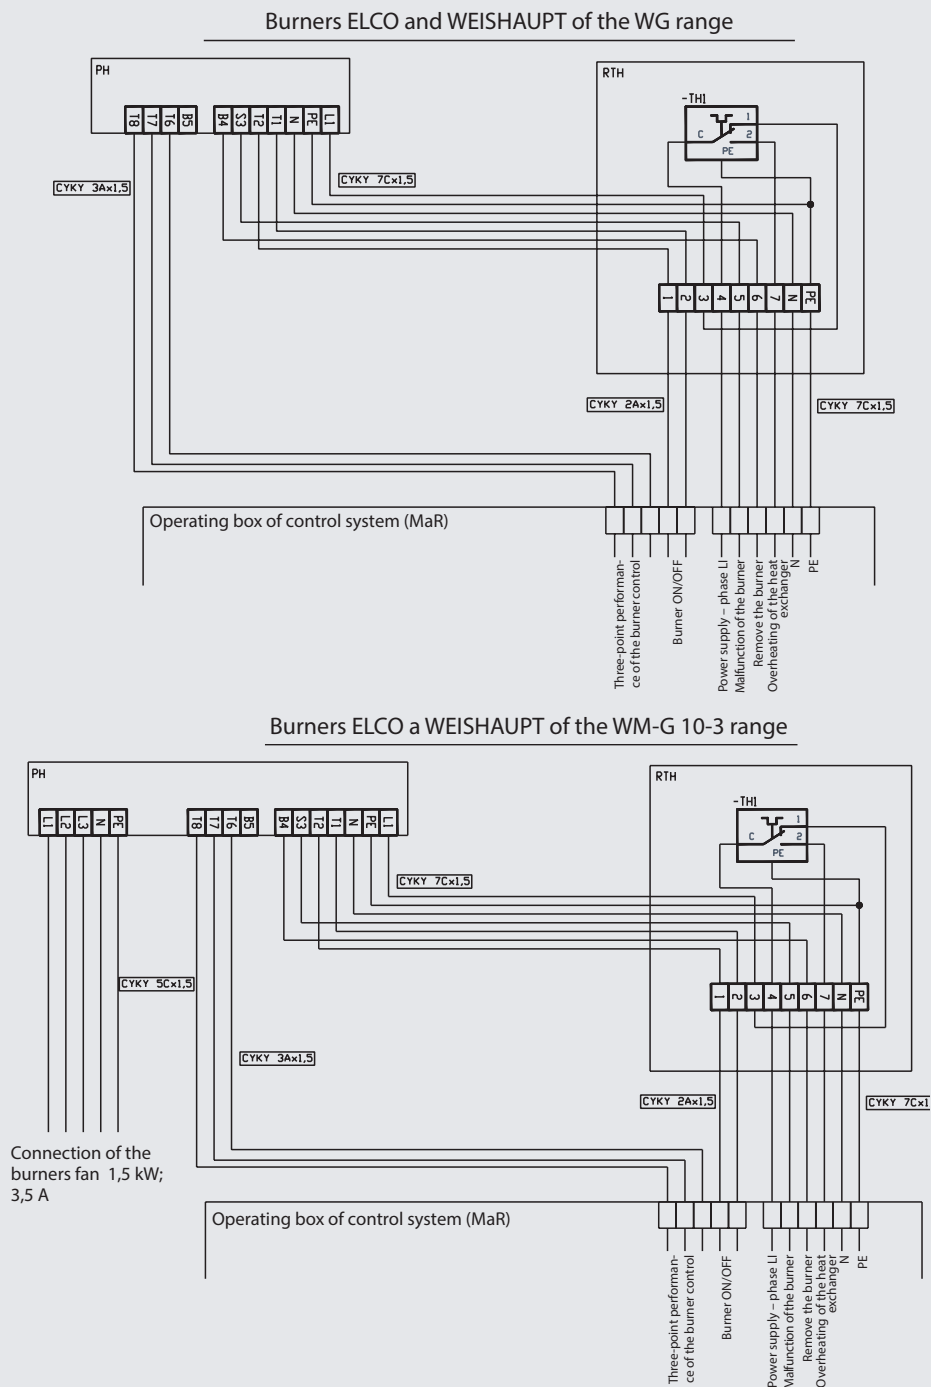
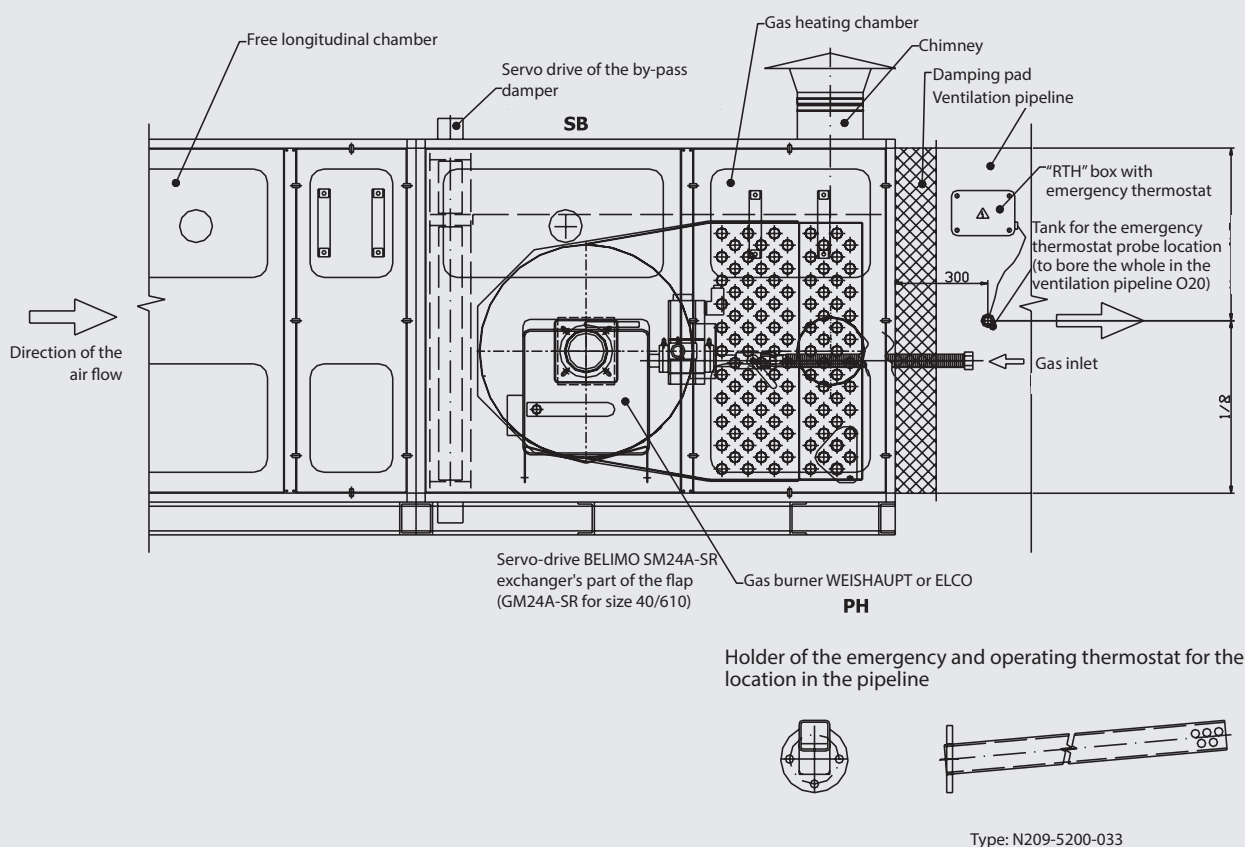
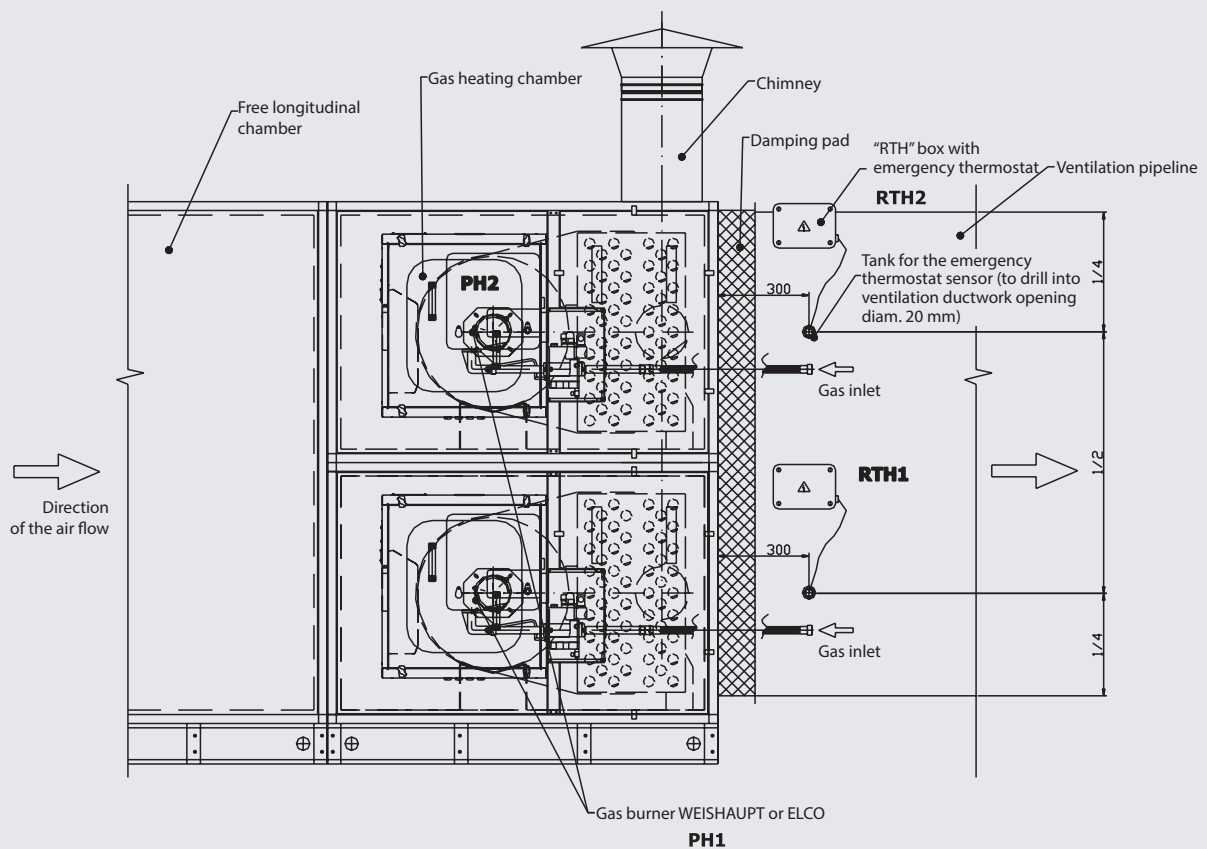

Fig. 1.11: Installation of RTH cabinet with a PH gas burner
Fig. 1.12: Location of controlling system elements with the gas heater PECIN
Fig. 1.13: Location of controlling system elements chambers with the gas heater PECIN
1. The cabinet with an emergency thermostat RTH must be connected to the burner chamber, according to Figure 1.11. Location of the emergency thermostat and its capillary is obvious in Figure 1.12.
Electrical connection of each of the two gas burners is governed by the diagram in Figure 1.11.
1. The cabinet with an emergency thermostat RTH must be connected to every burner chamber, according to Figure 1.11. Location of the emergency thermostat and its capillary is obvious in Figure 1.13.